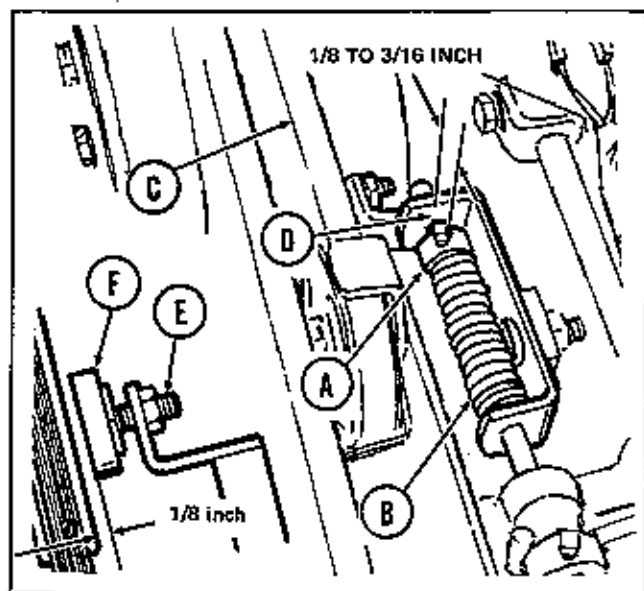

Figure 10. Shuttle drive forward adjustment.
5. See figure 10. Loosen nut (E) and turn brake pad (F) so there is  $1/8''$  clearance between the brake pad and the drive pulley. Tighten nut (E) securely.
6. See figure 10. Use the following procedures to adjust the forward clutch.
- b. See figure 10. Loosen the set screw in collar (A). Push the rod guide assembly (B) forward until slack is removed from the forward drive belt (C).
- e. See figure 10. The distance (D) between the rod guide and collar (A) should be  $1/8''$  to  $3/16''$ . If it is not, repeat steps a. through d. until distance (D) is  $1/8''$  to  $3/16''$ . Place more tension on belt (C) to increase distance (D) or less tension to decrease the distance.
Will not pull forward with full power. Repeat adjustment step 6 placing more tension on the clutch belt. (figure 10, item C).
Tractor creeps forward when control lever is in neutral. Repeat step 6 placing less tension on the clutch belt. (figure 10, item C).